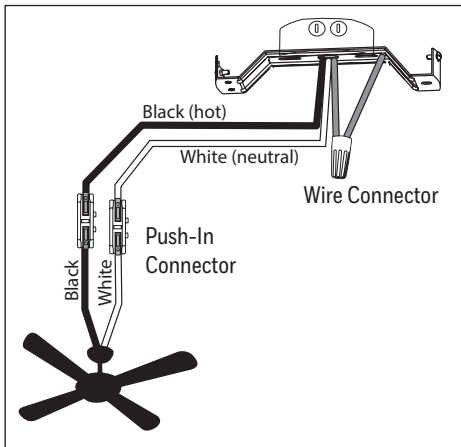

Figure 4.1
1. Make the following wire connections according to the diagram and these steps: (Figure 4.1):